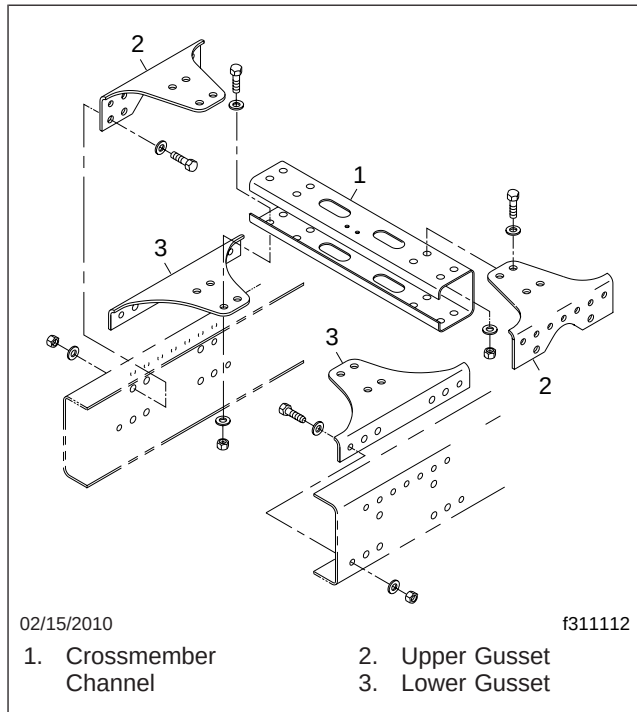

Fig. 7, Rearmost Rear-Suspension Crossmember
4. Remove all fasteners that attach the crossmember channel to the upper and lower gussets. See Fig. 7.